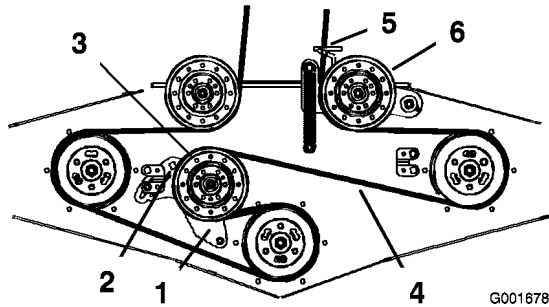

Figure 48
4. Loosen the fixed idler arm and adjust it to relieve the belt tension on the fixed idler pulley (Figure 48).
6. Install the new belt through the belt guide and on the pulleys (Figure 48).